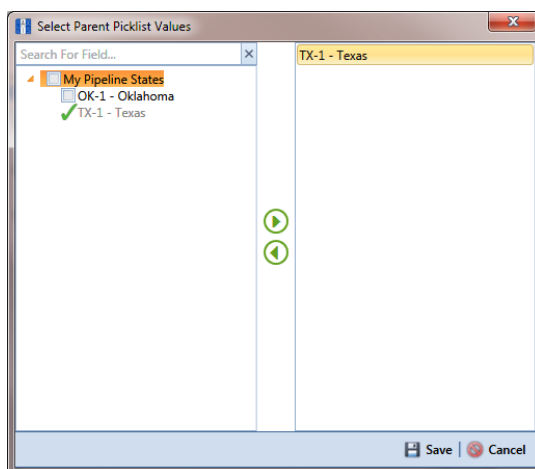

Figure 3-56. Select Parent Picklist Values
- d Map a data item in the parent picklist to the currently selected data item in the child picklist. A list of data items related to the parent picklist display in the left pane of the dialog box (Figure 3-56).
- d Map a data item in the parent picklist to the currently selected data item in the child picklist (Figure 3-56, page 105). Click  **Save** when you finish to save settings and close the dialog box.
- 2)** Map a data item in the associated parent picklist to the new data item in the child picklist in the following manner. A list of data items related to the parent picklist display in the left pane of the dialog box (Figure 3-56, page 105).